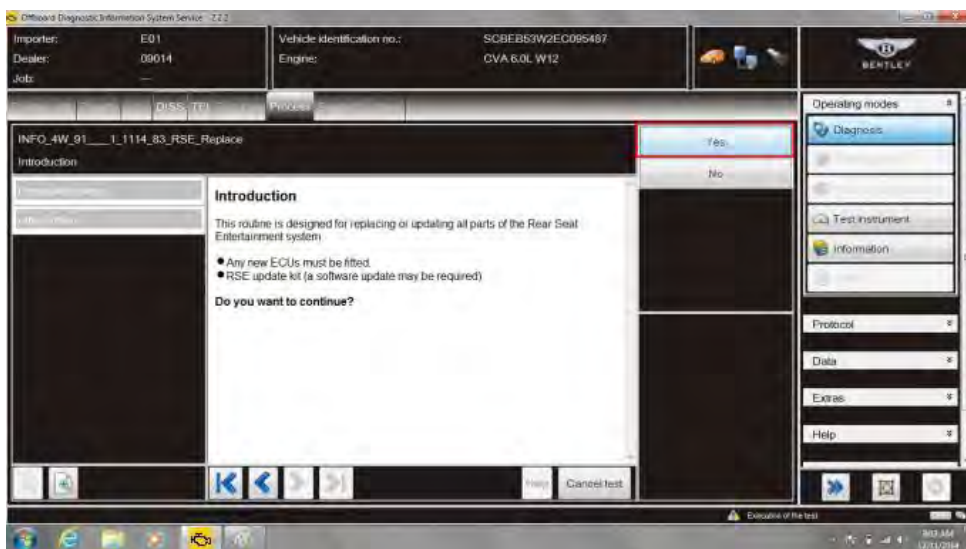

Figure 5
10. Select Yes at **Introduction** screen (see Figure 5)